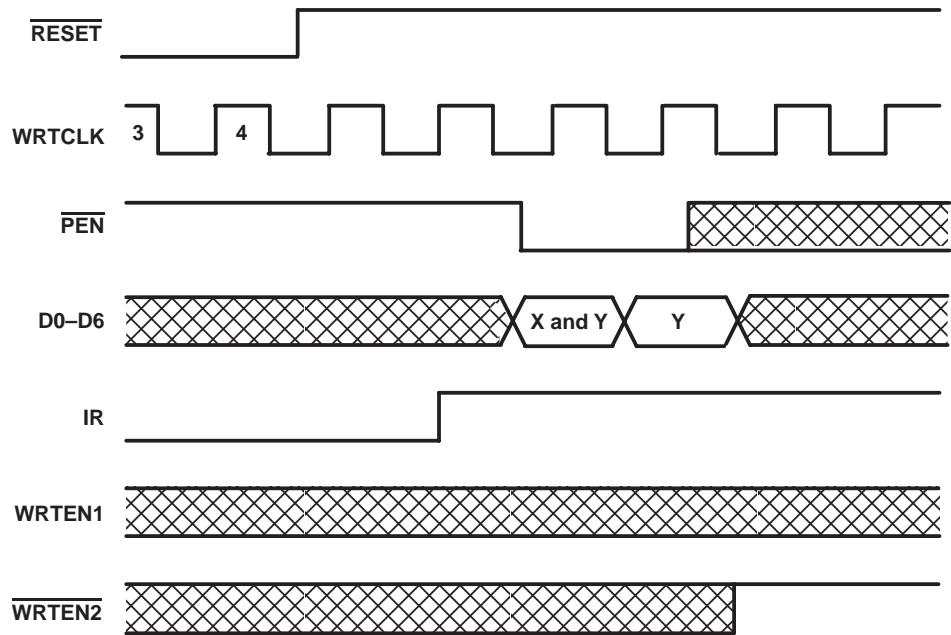

Figure 4. Programming X and Y Separately
Program enable ($\overline{\text{PEN}}$) should be held high throughout the reset cycle. $\overline{\text{PEN}}$ can be brought low only when IR is high and WRTCLK is low. On the following low-to-high transition of WRTCLK, the binary value on D0–D6 is stored as the almost-empty offset value (X) and the almost-full offset value (Y). Holding $\overline{\text{PEN}}$ low for another low-to-high transition of WRTCLK reprograms Y to the binary value on D0–D6 at the time of the second WRTCLK low-to-high transition. When the offsets are being programmed, writes to the FIFO memory are disabled regardless of the state of the write enables (WRTEN1, WRTEN2). A maximum value of 127 can be programmed for either X or Y (see Figure 4). To use the default values of $X = Y = 32$, $\overline{\text{PEN}}$ must be held high.